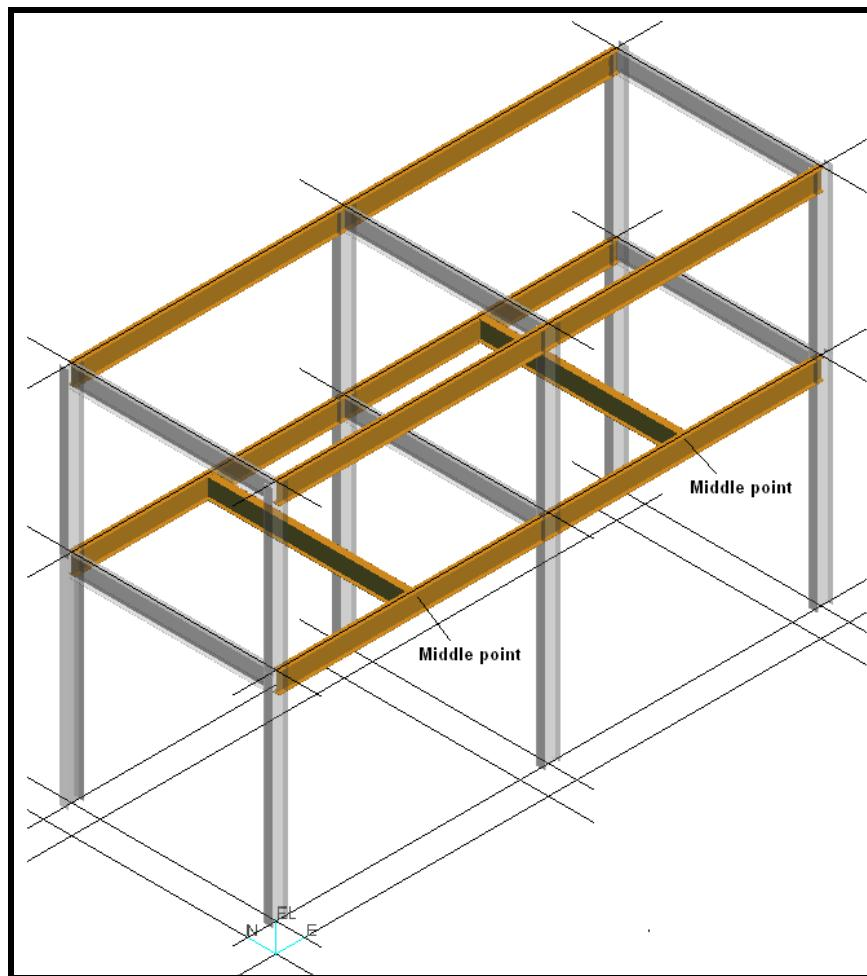

Figure 3 –Isometric View of the Structure U02
19. Select Place Linear Member System command to place beams as shown in figure 3. Use following properties for perimeter beams: